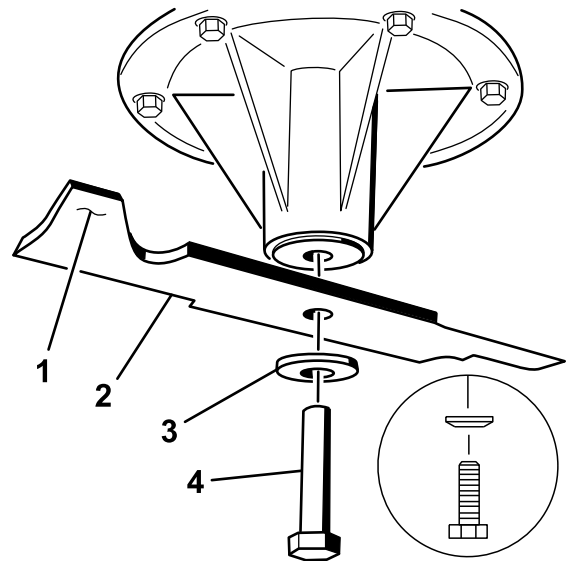

Figure 96
2. Remove the blade bolt, curved washer, and blade from the spindle shaft (Figure 96).
2. Check the balance of the blade by putting it on a blade balancer (Figure 98). If the blade stays in a horizontal position, the blade is balanced and can be used. If the blade is not balanced, file some metal off the end of the sail area only (Figure 96). Repeat this procedure until the blade is balanced.